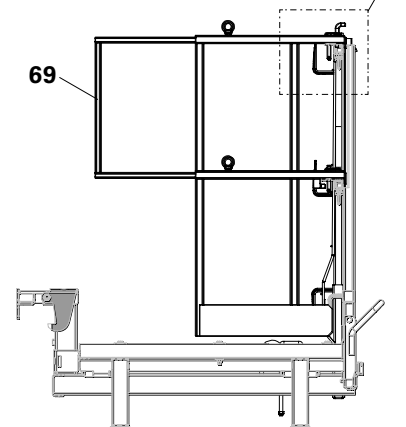

Fig. A13.09
- Mount End Guardrail Frames (69) on all leading edges. (Fig. A13.09)
2. Install End Guardrail Frame. (Fig. A13.09)